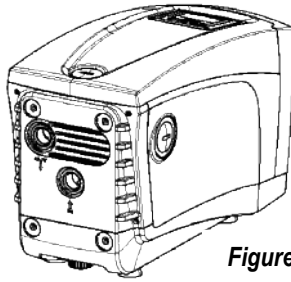
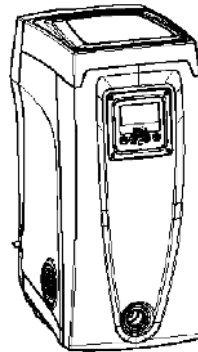

Figure 4
Figure 5
- **Face F:** as indicated by the label to be removed, the 1" cap has a dual function: in the case of horizontal installation, the outlet that is closed by the cap acts as the system's loading door (see below "loading operations", par. 4.2.3); in the case of vertical installation, the same outlet can act as the input hydraulic connection (exactly like the one marked "IN" on face C and as an alternative to it). The user interface panel is composed of a display and a keyboard and its function is to set the system, query its status and communicate any alarms. The system can be installed in 2 different configurations: horizontal (Fig.4) or vertical (Fig.5).